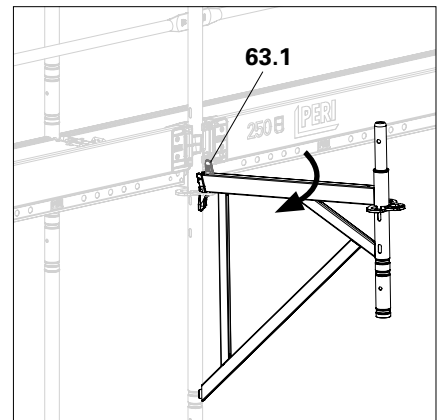

Fig. A6.04a
2. Hold the wedge (**63.1**) up, and swing the console bracket outwards. The formwork half (**63.2**) must rest against the vertical tube. (Fig. A6.04a)